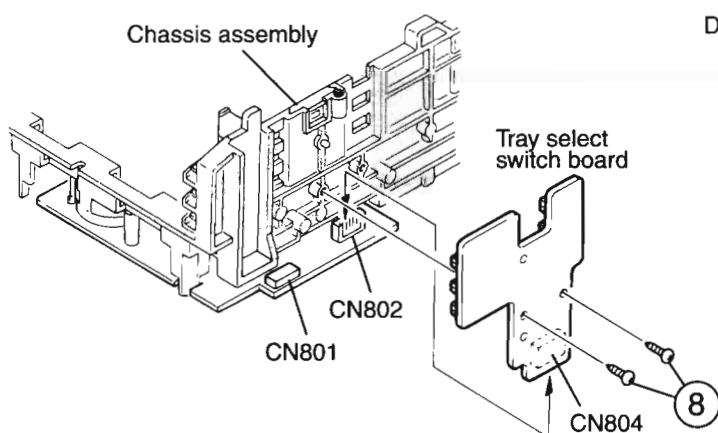

Fig.15
3. Remove the two screws 8 retaining the tray select switch board(See Fig.15).
■ Removing the cam unit (See Fig.15 ~18)
2. While turning the cam gear L, align the pawl "N" position of the drive unit to the notch position(Fig.15) on the cam gear L.